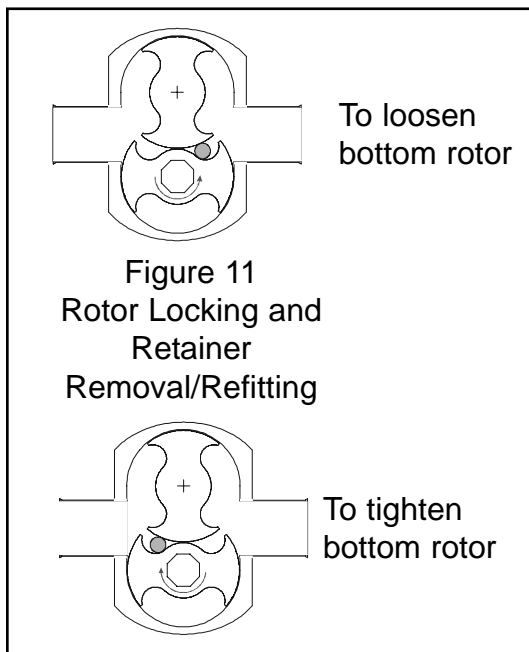

Figure 11
- a) Hy-Line **only:** The rotors are secured by special slotted screws (59) sealed by O-rings (58). Lock the pump rotors with a soft spacer - a plastic block (180) is provided for this purpose. (see also figure 11). Use only the special tool (181) supplied to loosen and retighten. Both screws have a right-hand thread. Withdraw rotors carefully to avoid seal
- a) **LH72, 74, 76 & Tanker Pumps:** Lock the pump rotors with a soft spacer - A plastic block (180) is provided for this purpose (see also Fig.11). Use only the special tool (181) supplied to loosen and retighten the hygienic cap (59A) both screws have a right-hand thread. Remove the three bolts holding the rotors onto the shaft using an allen key. Withdraw rotors carefully to avoid seal damage by contact between shaft ends and seal faces which are located on the back of the rotors.
- a) Ultima **only:** The rotors in Ultima pumps are held in place with tie-rods (26 and 27) which have threaded ends and pass through the hollow shafts (24 and 25). The tie rods are secured with nuts (87) and washers (88). To remove rotors proceed as follows:
Lock the pump rotors with a soft spacer - a plastic block (180) is provided for this purpose. See also figure 11. Loosen and remove tie-rod nuts (87) and washers (88).